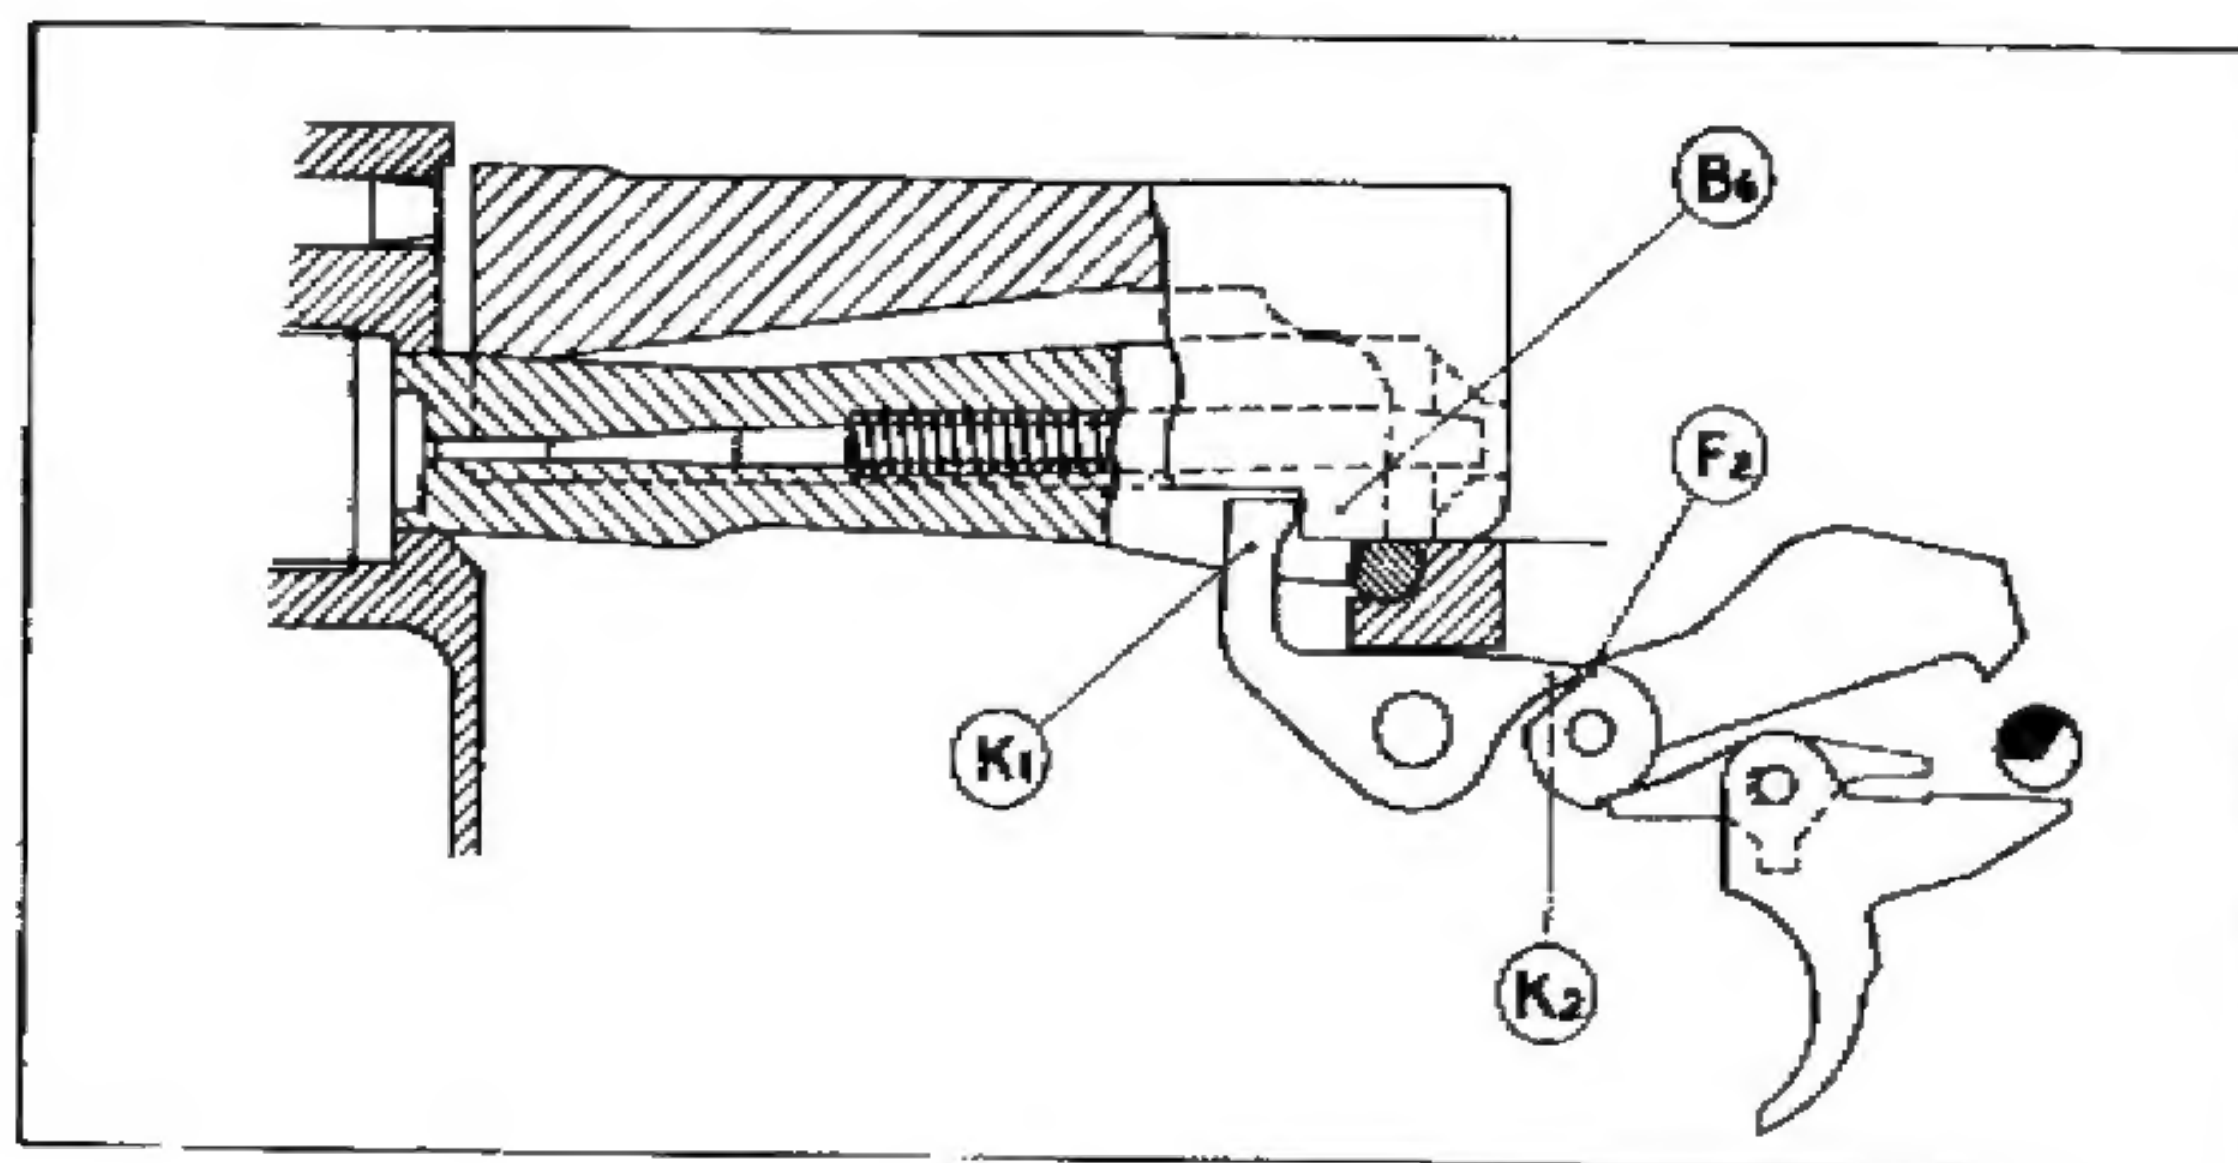

Fig. 12
- While the working parts are moving, the head of the firing pin is hidden by the slide (fig. 12).
- As soon as the rear portion of the slide has passed the hammer, the latter rises and its bent (F2) engages with the nose (K2) of the safety sear, which holds it in the "cocked" position (fig. 12).
- Just before reaching its limit of travel, the shoulder (B6) on the rear bottom surface of the slide comes into contact with the arm of the safety sear (K1) (fig. 12).